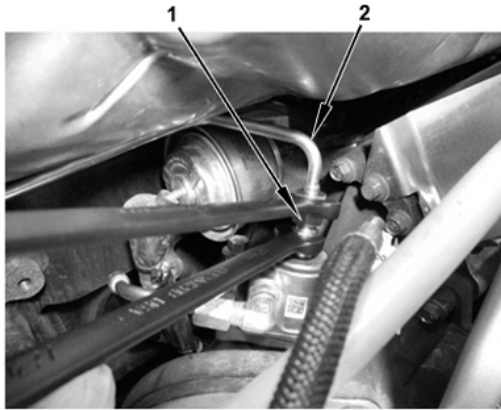

Figure 9 HCl Fuel Supply Line
12. Remove and cap HCl fuel supply line (2) and inlet nut (1) (Figure 9).